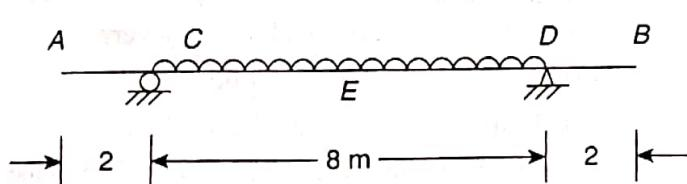

Figure 11.49
- A uniform beam of length 12 m is supported symmetrically over a span of 8 m. It is subjected to a uniformly distributed load of 4 kN/m over the supported length of 8 m as shown in Fig. 11.49. Determine the ratio of deflection at free-end and at the centre of the beam.